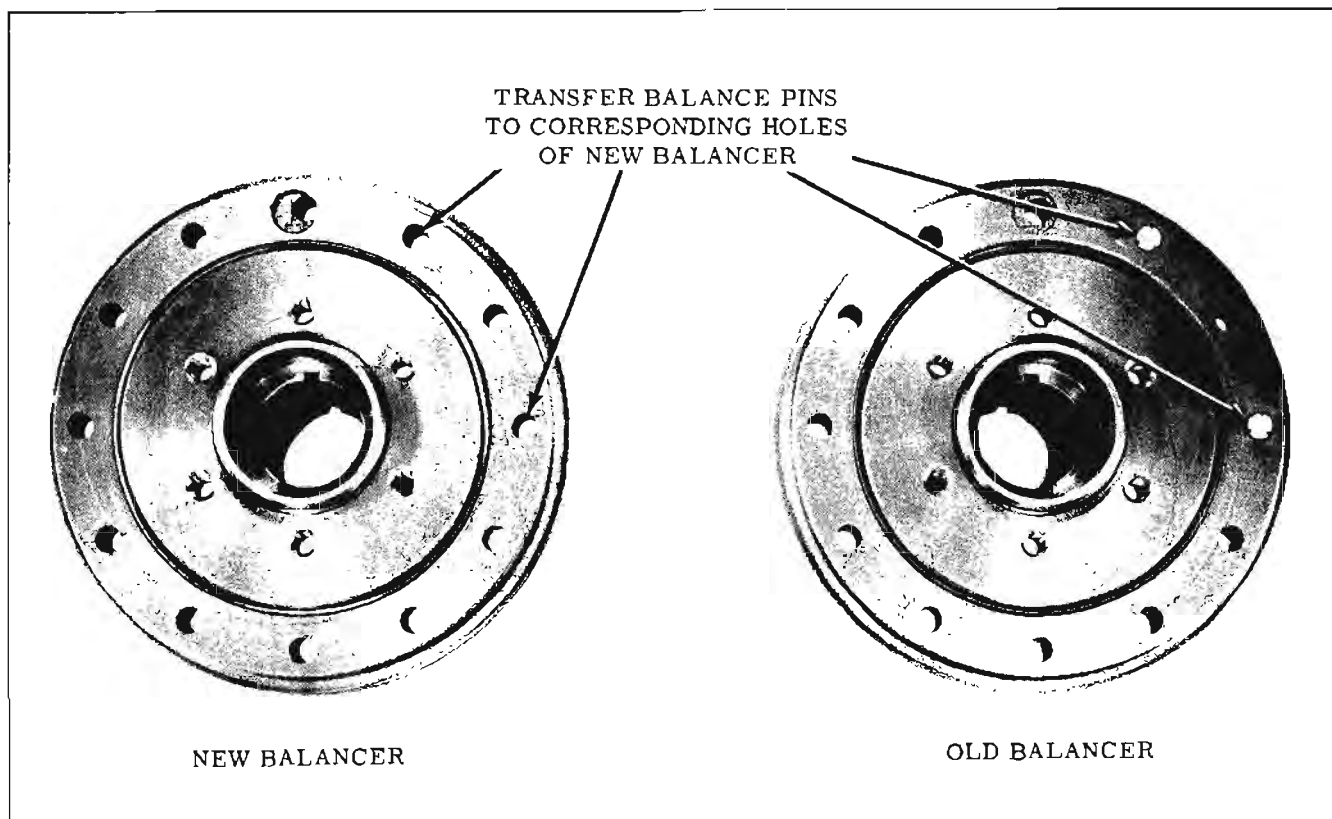

Fig. 8-136 Crankshaft Balancer Pins
- a. Lay new and old balancer with keyway in relative position. (Fig. 8-136)